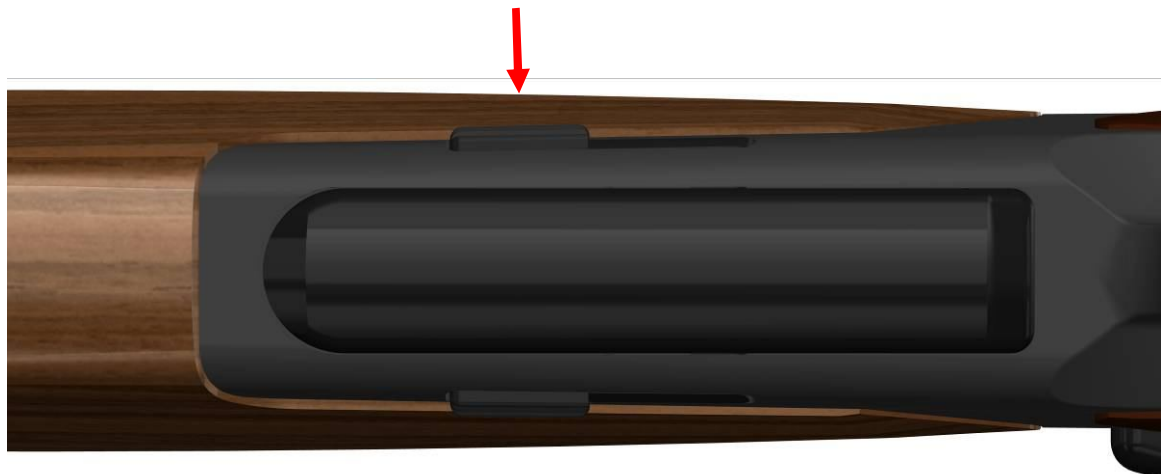

Figure 4
(1) Remove magazine from system case by pressing both magazine catches (Figure 4).
- (1) Remove magazine from system case by pressing both magazine catches (Figure 4).